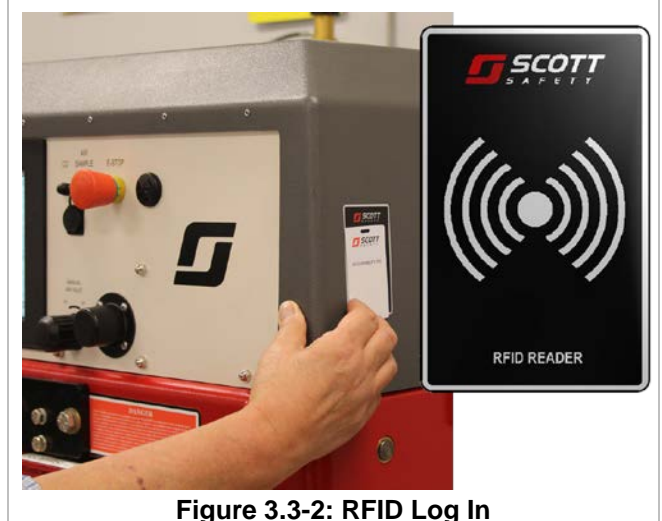

Figure 3.3-2: RFID Log In
B. Hold your RFID Card over the Scan location located on the right side of the charge station cover. The area will be identified with the Scott Safety RFID Label. See Figure 3.3-2.